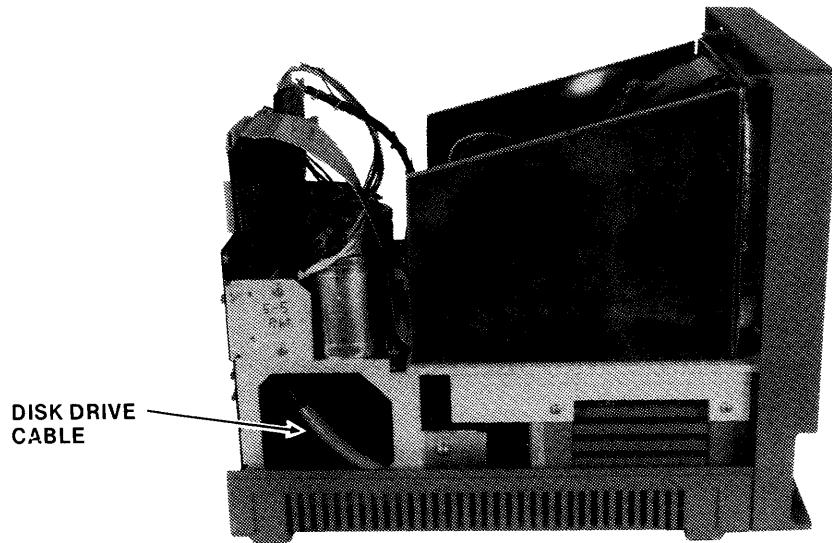

Figure 4-8. Disk Drive Control Cable Routing
8. Dress the cable along the side of the main chassis as shown in Figure 4-8.